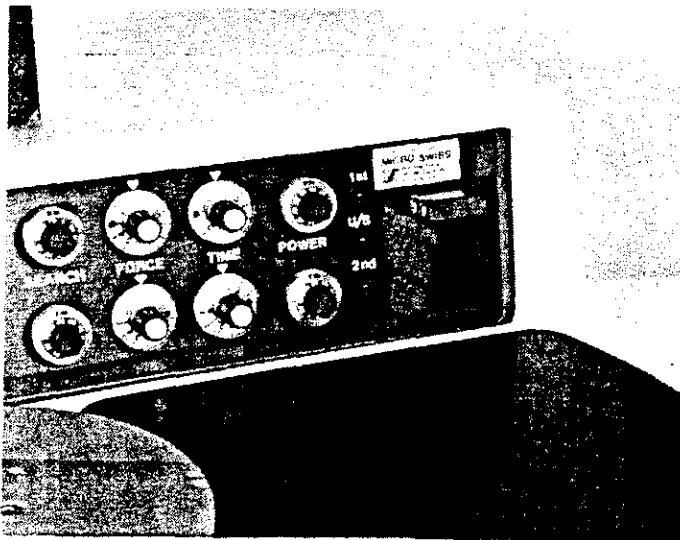

Figure 1-4 Z Lever Packaging
- Step 19 If your machine is equipped with the Manual Z option, remove the sponge packing from the slot under the Z-lever (see Figure 1-4).